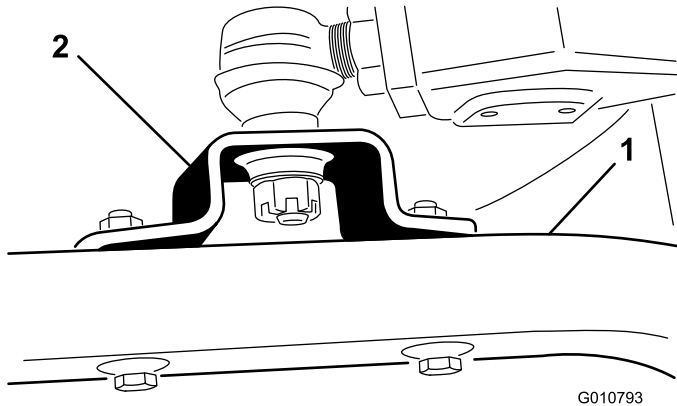

Figure 19
- Remove the capscrews and locknuts securing the ball joint mounts to the castor arms on the cutting unit (Figure 19).
- Move the lift lever to the Float position. Push the lift arms down until the holes in the ball joint mounts lineup with the holes in the castor arms (Figure 19).